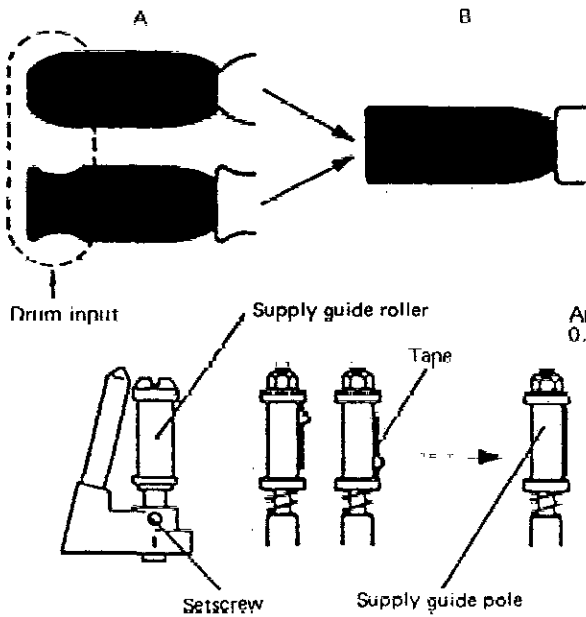

Fig. 28 Drum input adjustment
2. Refer to Fig. 28. Examples of incorrect waveform are shown by A.